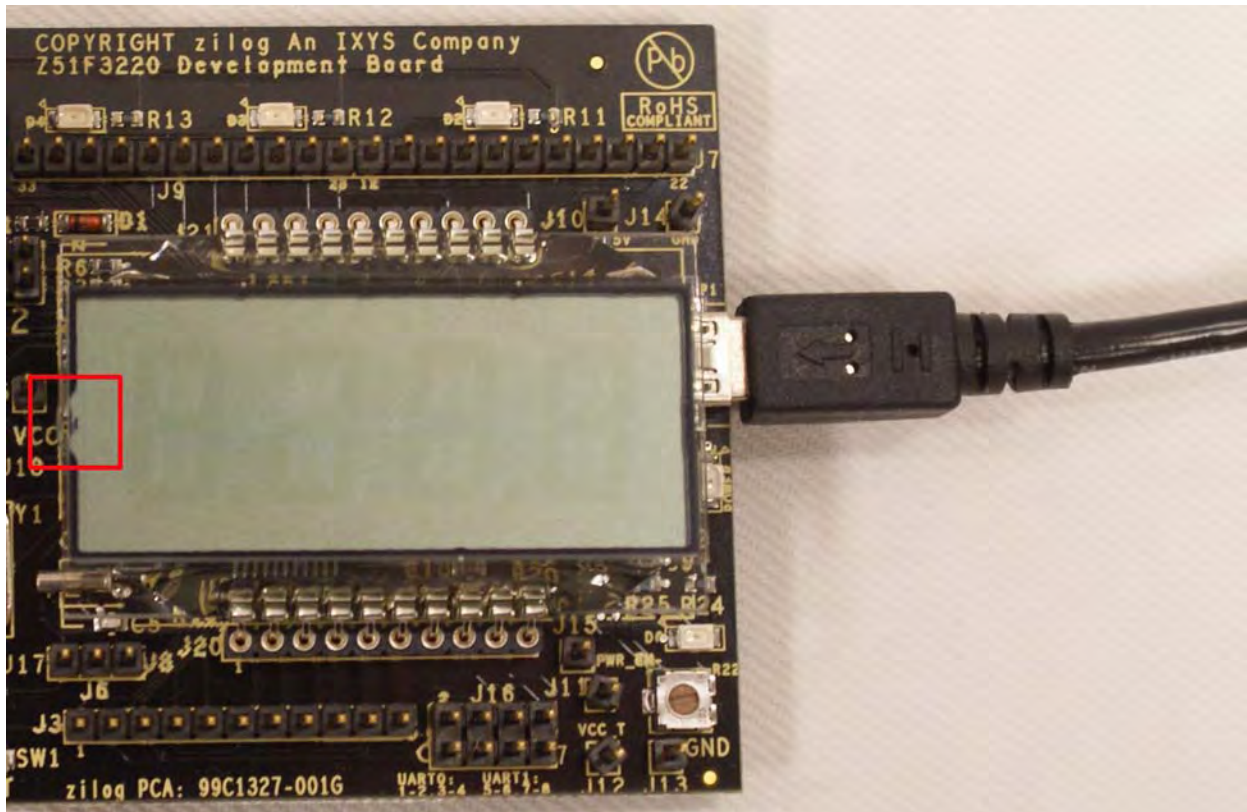

Figure 9. Connecting the USB Mini-B Cable to the Board
4. Connect the other end of this second Mini-B cable to the Z51F3220 Board's P1 connector to apply power to the Board. Note that the green LED D5 is ON; see Figure 9.
- **Note:** In the event that you later remove the LCD panel from the Board, observe its orientation in Figure 9. The panel's small plastic notch should be located in the position indicated by the red square.